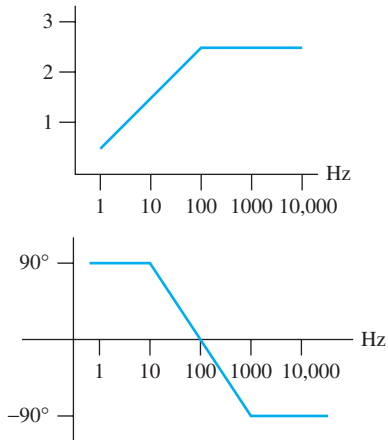

FIGURE P7.17 Frequency response for Problem 7.17.
- 7.17** (A) Determine type of the transfer function for Figure P7.17. Then determine the output voltage if input voltage $v_{in}(t) = 8 \cos(20\pi t - 45^\circ) + 5 \cos(200\pi t + 30^\circ)$.